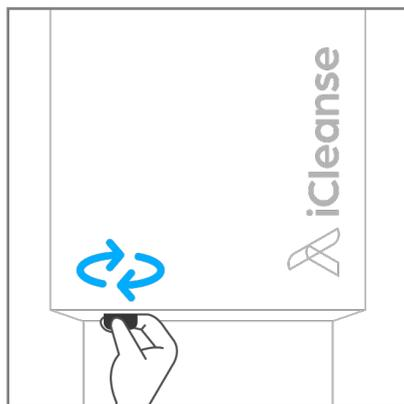

Figure 27.
Step 1: Rotate the hand knob clockwise until the elevator reaches the bottom (Figure 27.).